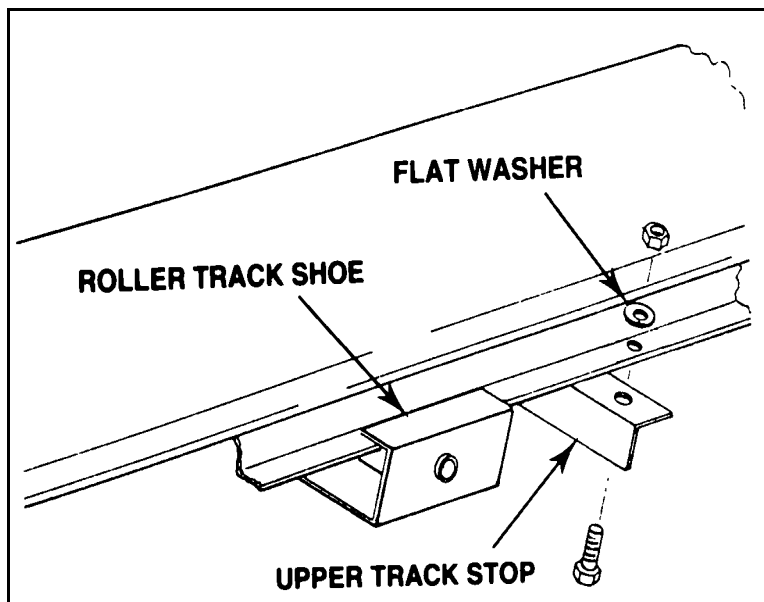

Figure 3.5
2. Attach the upper track stop with 7/16" x 1" bolts, heavy flat washers, and locknuts (Figure 3.5). For correct positioning of the upper trackstop, see Table 3.1.